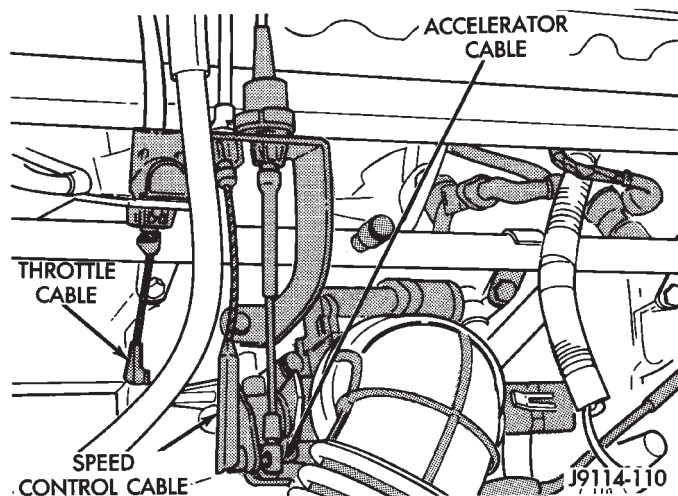

Fig. 13 Accelerator, Throttle and Speed Control Cables
(4) Disconnect accelerator cable, throttle cable (automatic transmission) and speed control cable (if equipped) from throttle arm (Fig. 13).